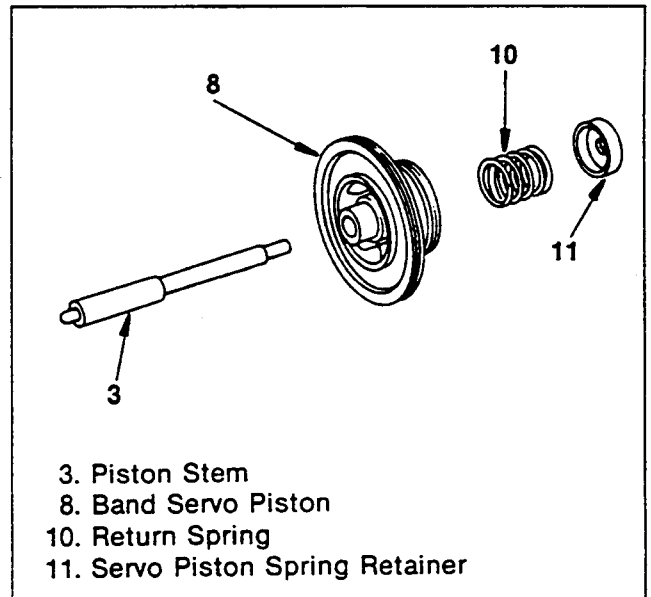

Figure 205. Piston Stem Removal
3. Remove the servo piston spring retainer, return spring and piston stem from the band servo piston (figure 205).